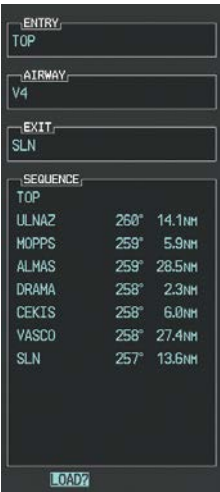

Figure 5-117 Ready to Load V4
- j) Press the **ENT** Key. The selected airway and exit are displayed, and the prompt “LOAD?” highlighted as in Figure 5-117.